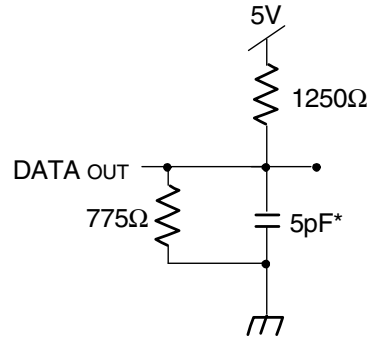

Figure 2. Output Test Load
- Transition is measured 0mV from Low or High-impedance voltage Output Test Load (Figure 2).
1. Transition is measured 0mV from Low or High-impedance voltage with Output Test Load (Figure 2). This parameter is guaranteed by device characterization but is not production tested.
7. This parameter is determined to be device characterization, but is not production tested. Transition is measured 0mV from steady state with the Output Test Load (Figure 2).